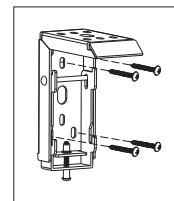

Figure 2
- a) Wood wall and ceiling installation: Drill in the $\phi 5 \times 40$ screws through the appropriate holes in the bracket (Figure 2 - 3).